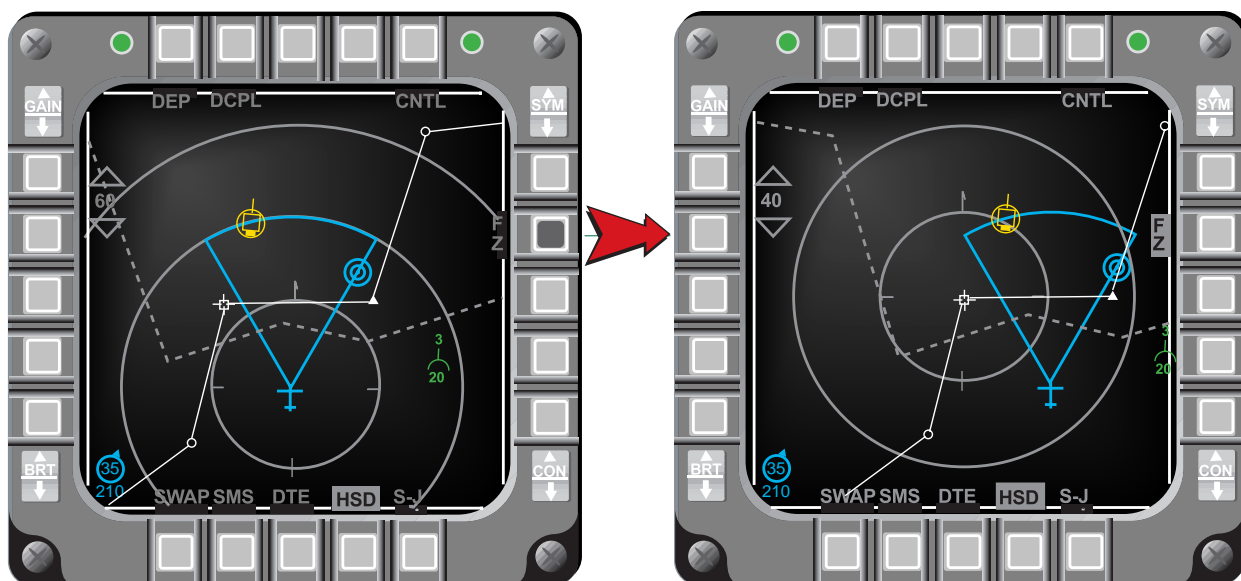

Figure 2-7 HSD In Freeze Mode (SOI)
When the Horizontal Situation Display (HSD) is selected as the Sensor of Interest (SOI), Depress and Release (D&R) OSB #7 (Freeze (FZ)) on the HSD Base page, freezes the HSD about the cursor position. Upon entering freeze, the HSD utilizes the centered format to ground stabilize about the cursor position at the center of the display (Figure 2-7).